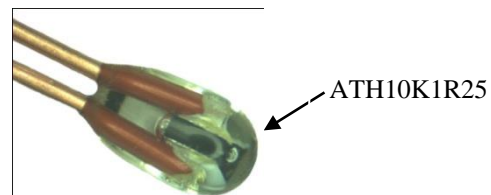
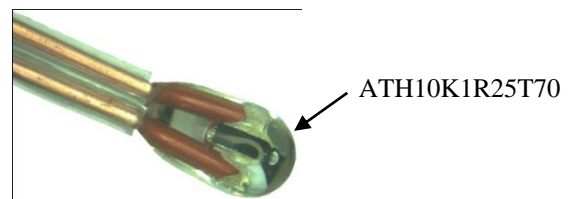
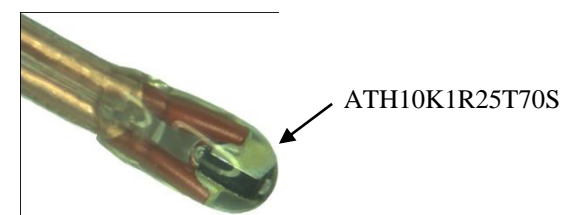

Figure 6.1. Bare Leaded Thermistor Head Photo
Figure 6.2. Tubing Leaded Non-sealed Thermistor Head Photo
Figure 6.3. Tubing Leaded Sealed Thermistor Head Photo
1. Do not bend the thermistor leads at the location that is too close to the thermistors body, to avoid breaking the glass coating, as shown in Figure 6.1, Figure 6.2, and Figure 6.3 below. Only bend the leads at the location that is at least 2mm away from the thermistor body.